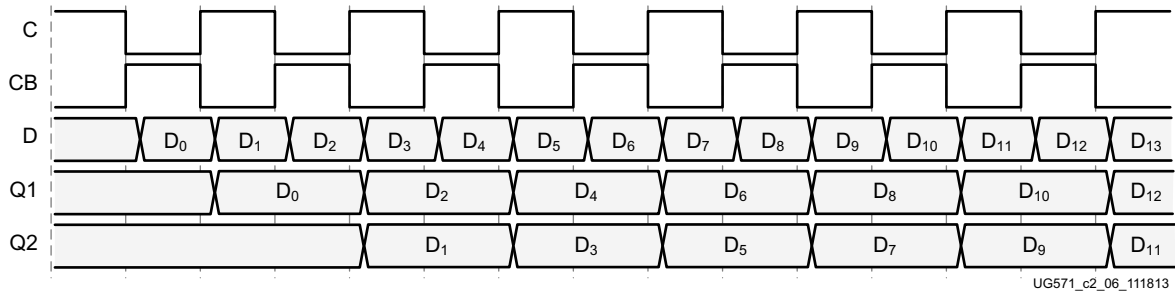

Figure 2-6: Input DDR Timing in SAME\_EDGE Mode
In the SAME\_EDGE mode, the data is presented into the device logic on the same clock edge. Figure 2-6 shows the timing diagram of the input DDR using the SAME\_EDGE mode. In the timing diagram, the output pairs Q1 and Q2 are no longer (0) and (1). Instead, the first pair presented is pair Q1 (0) and Q2 (don't care), followed by pair (1) and (2) on the next clock cycle.